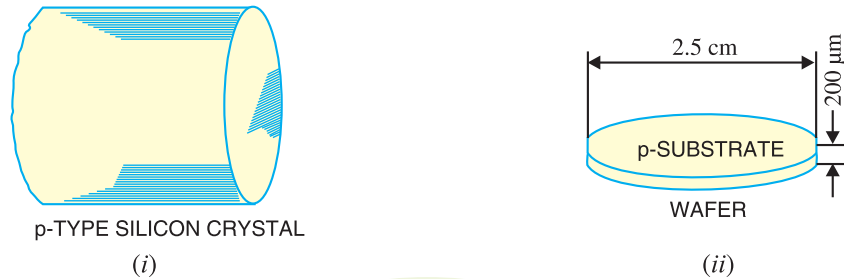

Fig. 23.2
- (i) **p-Substrate.** This is the first step in the making of an *IC*. A cylindrical *p*-type *silicon crystal is grown having typical dimensions 25 cm long and 2.5 cm diameter [See Fig. 23.2 (i)]. The crystal is then cut by a diamond saw into many thin wafers like Fig. 23.2 (ii), the typical thickness of